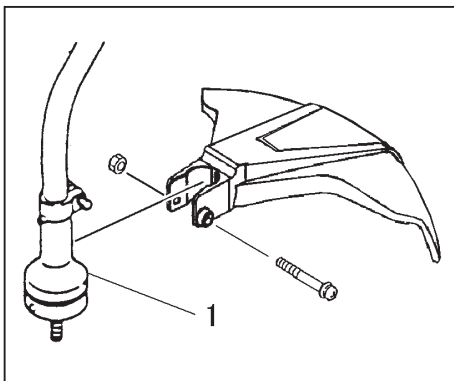

Fig. 1-8
**Installation of blade guard (Fig. 1-8, 8B, 8C)**
Install the blade guard as shown on above (Fig1-8,1-8B,8C).